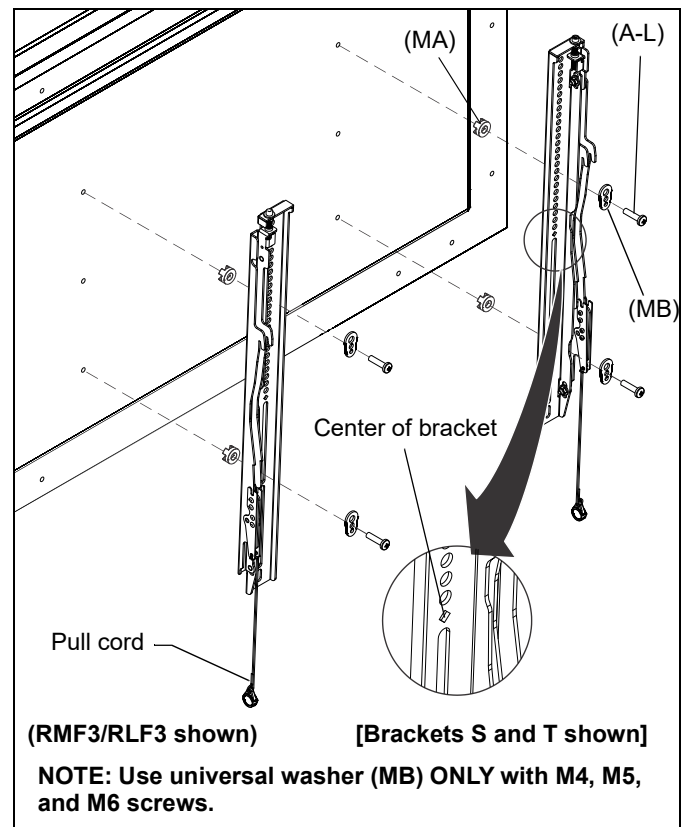

Figure 9
1. Align the center of the bracket (S and T or U and V) with center of screen. (See Figure 9)
- Select correct screws, nesting spacers (if necessary) and universal washers (if required) from the hardware bag (A-L) and attach brackets to back of screen. (See Figure 9)